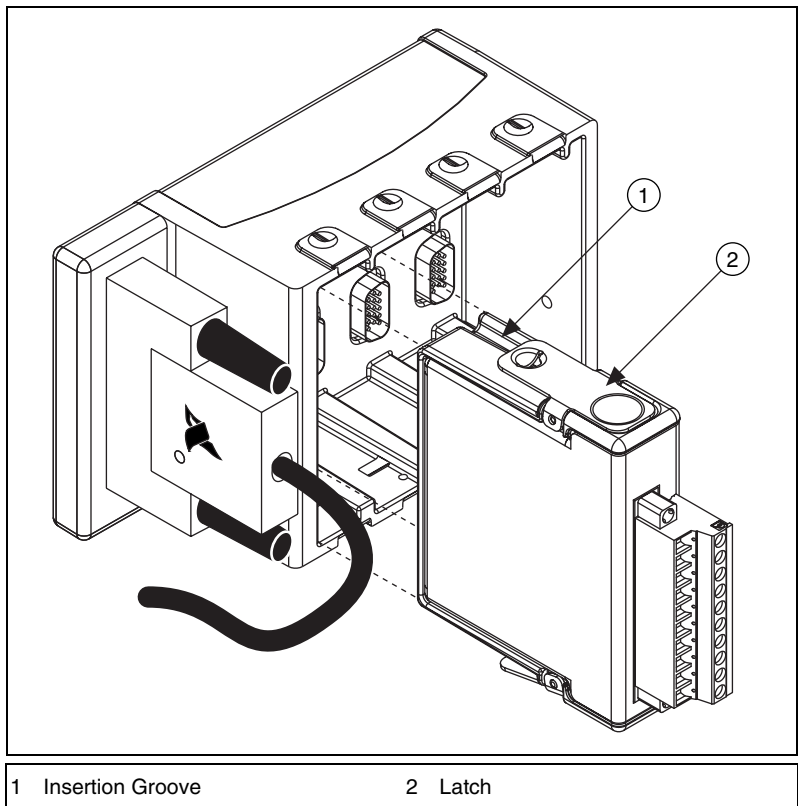

Figure 7. Installing an I/O Module in the Chassis
2. Align the I/O module with an I/O module slot in the chassis as shown in Figure 7. The module slots are labeled 1 to 4, left to right.